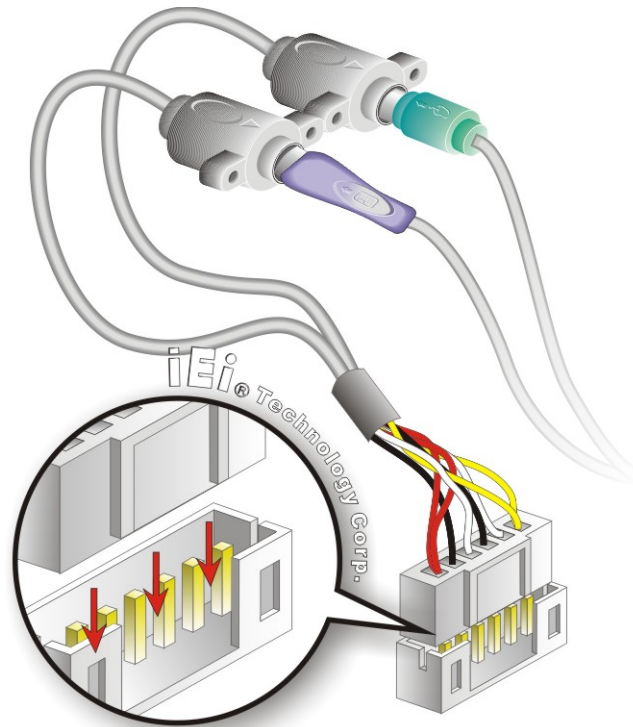

Figure 4-15: Keyboard/mouse Y-cable Connection
- Step 2: Align the connectors.** Correctly align pin 1 on the cable connector with pin 1 on the WAFER-945GSE keyboard/mouse connector. See **Figure 4-15**.
- Step 3: Insert the cable connectors** Once the cable connector is properly aligned with the keyboard/mouse connector on the WAFER-945GSE, connect the cable connector to the on-board connectors. See **Figure 4-15**.